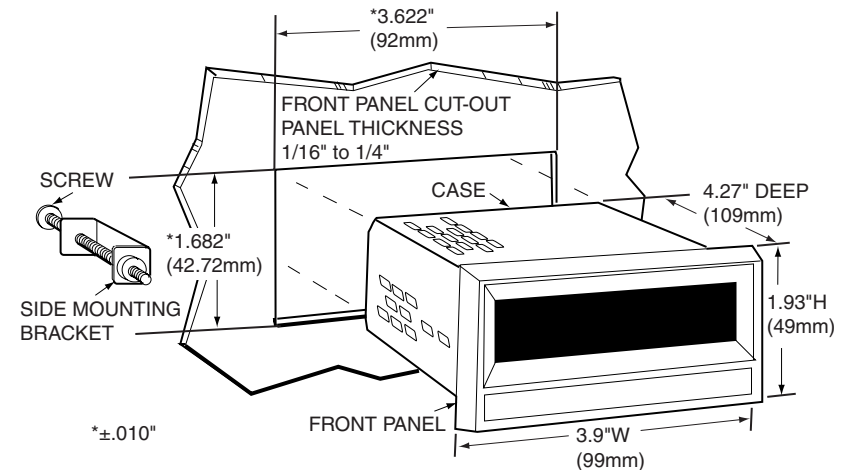

Figure 2-1. Panel Mounting and Cutout Dimensions
2. Insert a side-mounting bracket (10-863122) on each side of the Instrument. Use the two holes near the bezel as shown in Figure 2-1.